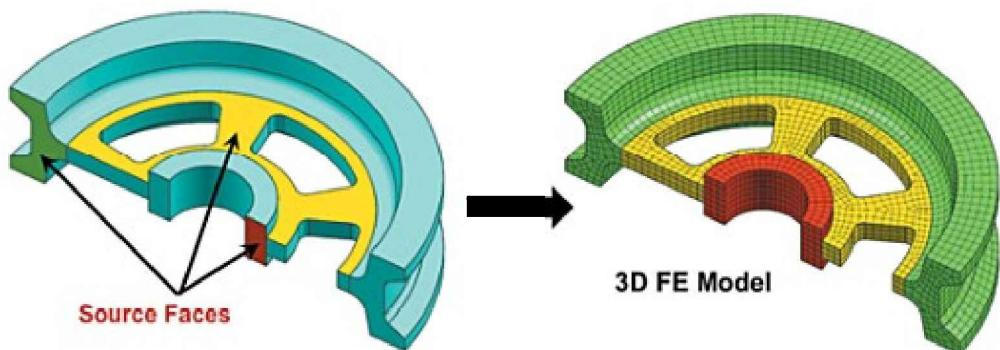

Figure 3.18. Automated generation of a hexahedral mesh
- Automated (*Multi Body-Infer Target*), which creates hexahedral meshes for several bodies at once if you select one source face for each body (Figure 3.18). If you use this method, the source and target faces of each body must have identical topology and contain the same number of edges.